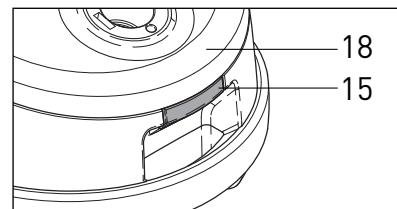

Figure 26
Changing the Motor Filter - Figures 26 & 27
The motor filter (48) needs to be changed when it becomes extremely dirty or clogged. To remove the motor filter, switch off the power and unplug the vacuum. Lift the cover release catch (#15, figure 26) and raise the filter bag cover (18). Pull the filter (48) out by grasping the rubber rim (#50, figure 27) of the filter and pulling it out of the groove (#49, inset, figure 29) that holds it. Fit the new filter into the groove and push the rubber rim snugly into the groove **all the way around the filter edge**. Do not leave any loose edges. Close the filter bag cover making sure that the cover release catch snaps back into place.